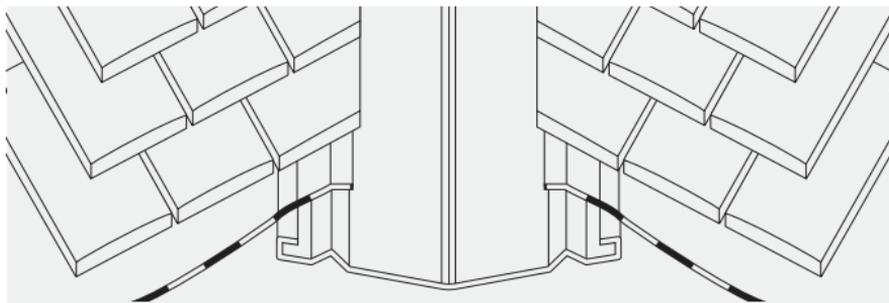

Fig. 19 – Metal valley construction for plain tiles
- 2 Nail all tiles and cut pieces adjacent to valley (Fig. 19).